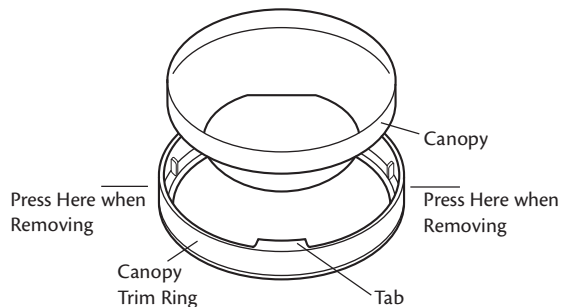

Figure 18 - Canopy trim ring
1. To easily install the canopy trim ring, locate the two tabs on the canopy trim ring. See Figure 18.
2. Take both hands and push the canopy trim ring up to the top of the canopy. See Figure 18.